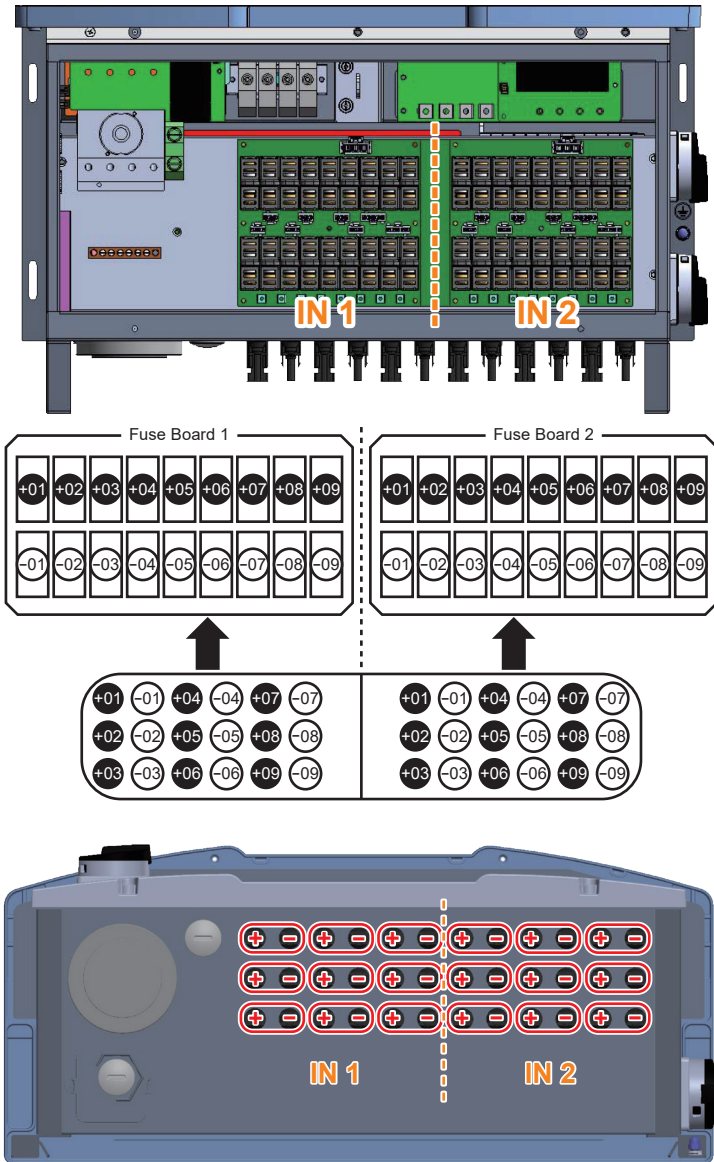

Figure 3-32: Wiring Box layout and Bottom view of inverter chassis showing location of MC4 connectors used to connect array wiring (DC) to M80/60U_122
- DC wiring polarities are divided into positive and negative, and the layout between the connectors and associated internal fuses is shown in **Figure 3-32**.